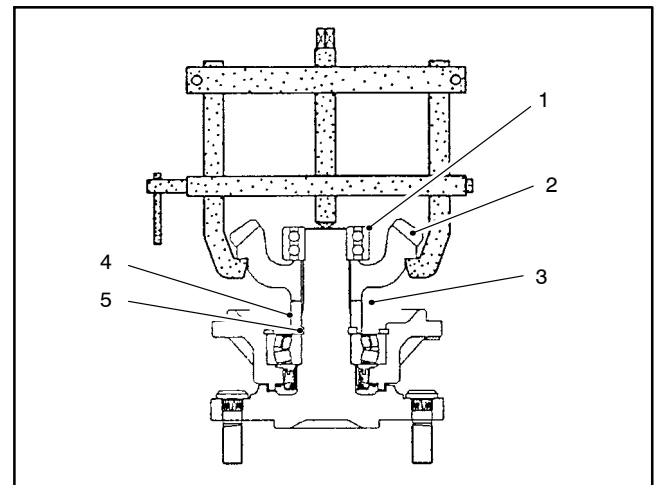

Figure 26
2. Use a bearing puller to remove the bearing and bevel gear as shown (Fig. 26).